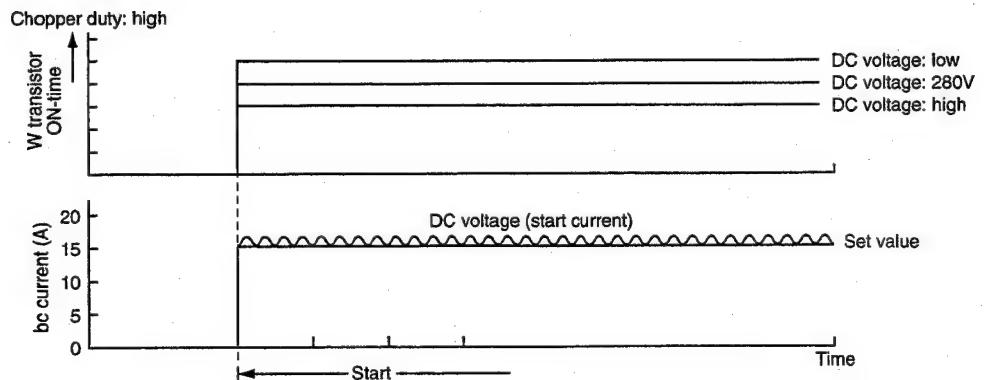

Fig. 8-10
- (2) Varies the turn-ON time of the W+ transistor according to the DC voltage level and the start is controlled so the start current is approx. 10A as shown in Fig. 8-10.